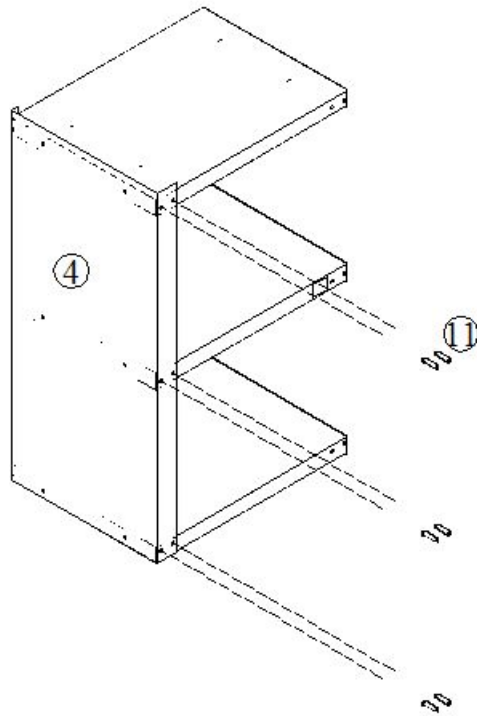

Figure 3
Attach another 6 sheet metal screws (11) for front portion of left side panel (4). As shown in Figure 3